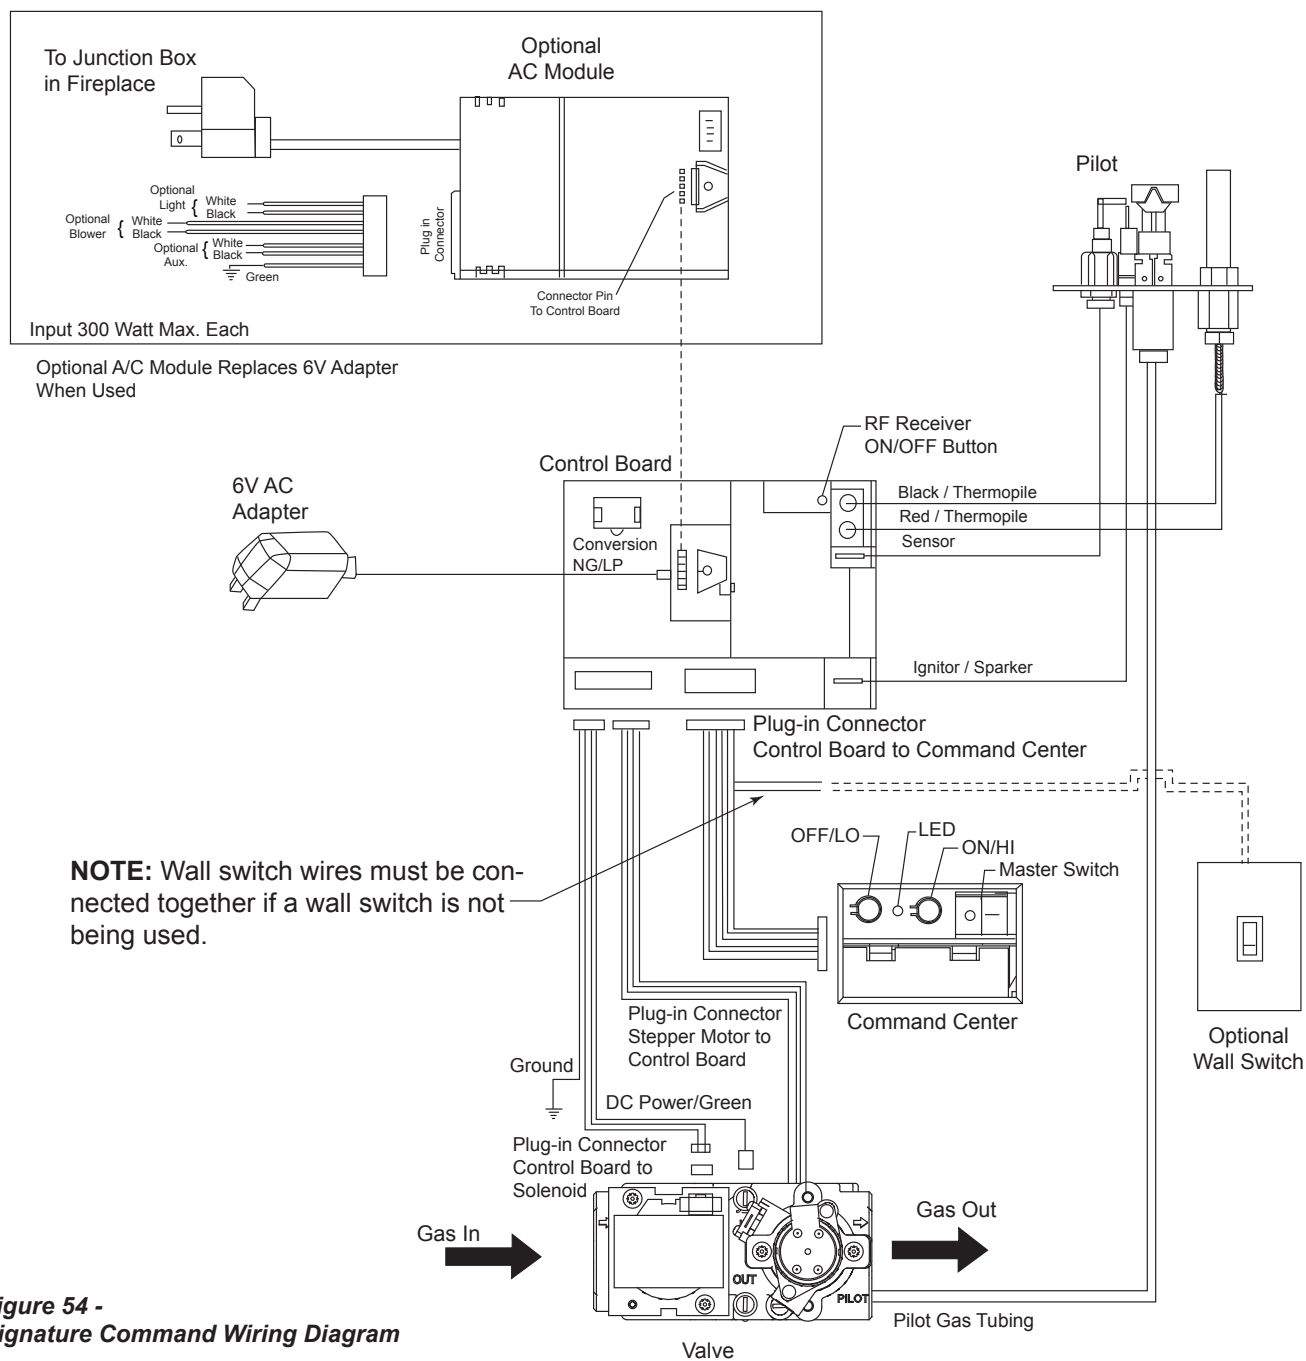

Figure 54 -
The wall switch wire connection is located off the 2 ft. wire harness from the control box to the command center. *Figure 54*. The connection is labeled "Wall Switch". Unplug the male and female connectors and connect the two (2) low voltage wires provided. Run wire to desired location on wall. Up to 50 ft. of 18 ga. wire may be used if necessary. Attach wires to wall switch. Mount the wall switch in to junction box and screw on cover.